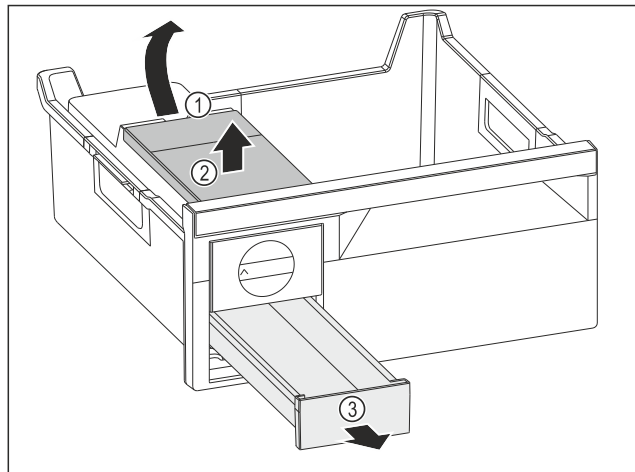

Fig. 187
- ▶ Removing the water tank: Lift the water tank by the recess Fig. 187 (1).
- ▶ Remove the water tank Fig. 187 (2) upwards.
- ▶ Remove the ice cube drawer Fig. 187 (3) to the front.